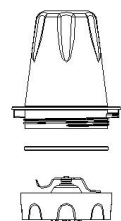

Fig.3
2. Fill the grinding bowl with proper coffee bean, then assemble the grinding blade assembly and grinding bowl together. Please see Fig.3